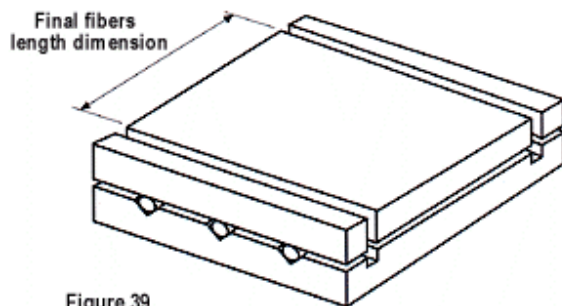

Figure 39
- The two plates with the fibers waxed in between were aligned and diced on an ADT 780/4 saw with a Micro-Swiss 4.6" O.D. x .020" thick resinoid blade to the final accurate length dimension (figure 39).